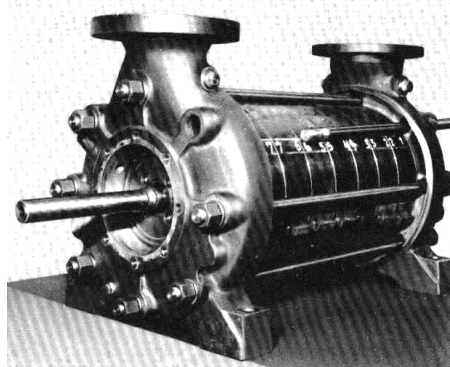

Fig. 58 - Identification of casing components and removal of tiebolts
1. The stage casings (108) should be numbered consecutively in respect of their positions in relation to one another before dismantling, to ensure that the suction casing (106), the stage casings (108) and the discharge casing (107) are all reassembled in the correct sequence in relation to one another during reassemble (see Fig. 58).